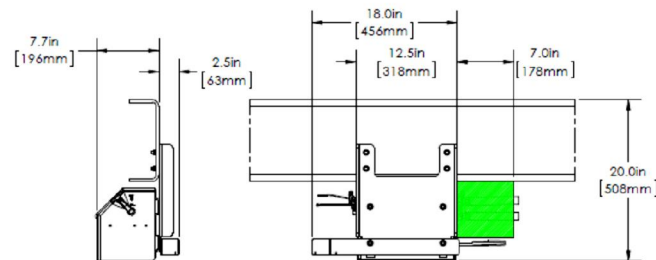
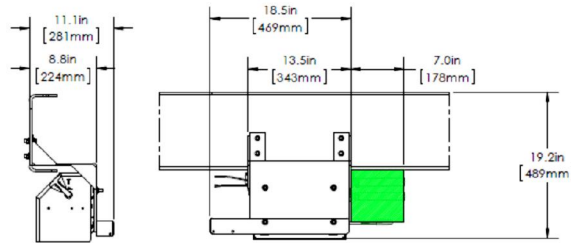

Figure 9. Auxiliary heater (Outside frame-mount)
Figure 10. Auxiliary heater (Inside frame-mount)
- The auxiliary heater (Figures 9 and 10) will be located on the curbside using the outside frame-mount (Figure 9), but may be located inside the frame using the inside frame-mount (Figure 10) if space is not available. Areas shown in green below installation clearance required for hoses.